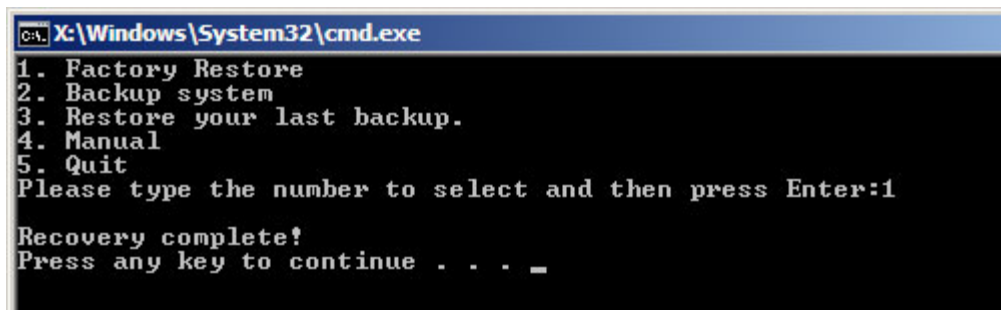

Figure D-35: Recovery Complete Window
Step 3: The screen shown in **Figure D-35** appears when completed. Press any key to reboot the system.